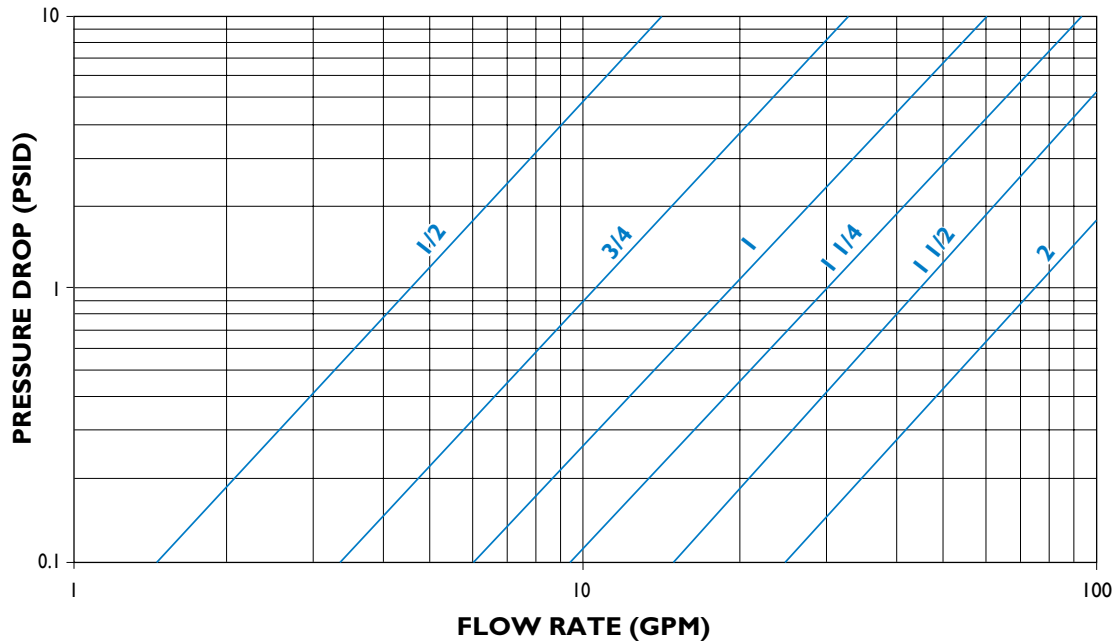

FIGURE 1
*Multiply values obtained from figure 1 thru 2 by the appropriate values shown below
- A) Using figure 1 the pressure drop is determined to be 0.9 psig with RPA's standard screen.
- 1) Using figures 1 or 2 determine the pressure drop (P1) through the strainer with water flow and standard screens.
- 4) Using chart #2 multiply P3 by the appropriate Component Factor (CF) to get P4.
- 6) Multiply P4 by the appropriate Body Loss Factor (BF) in chart #3 to get P6.
* Multiply values obtained from figures 1 thru 2 and charts #1, #2 and #3 (if used) by the appropriate values shown below